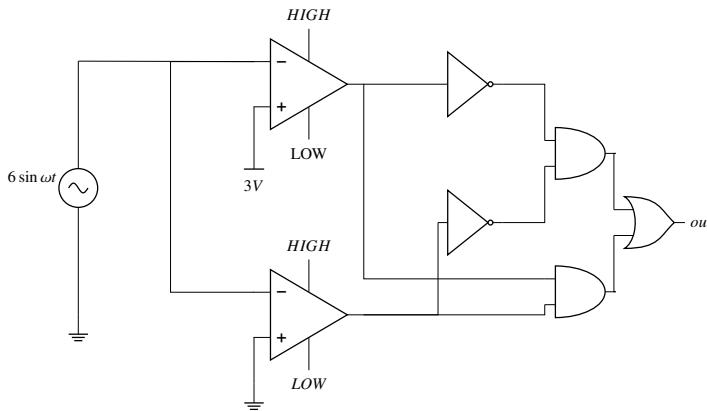

Fig. 3.12: Circuit Daigram
26. In the circuit shown below in Fig. 3.12, assume that the comparators are ideal and all components have zero propagation delay. In one period of the input signal $V_{in} = 6 \sin(\omega t)$, the fraction of the time for which the output OUT is in logic HIGH is